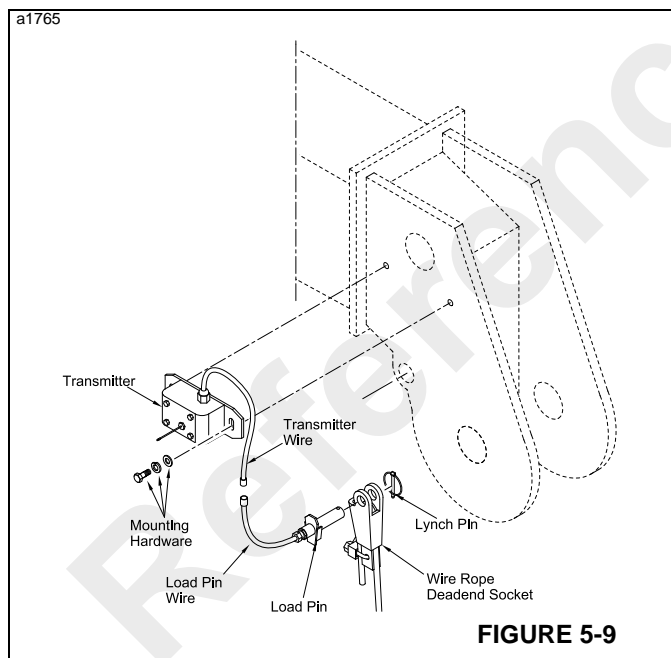

FIGURE 5-9
1. Disconnect the transmitter wire and load pin wire (Figure 5-9).
6. Install the transmitter to the boom head (Figure 5-9) using the existing hardware.
8. Connect the transmitter wire (Figure 5-9) and the load pin wire to the jumper wire.